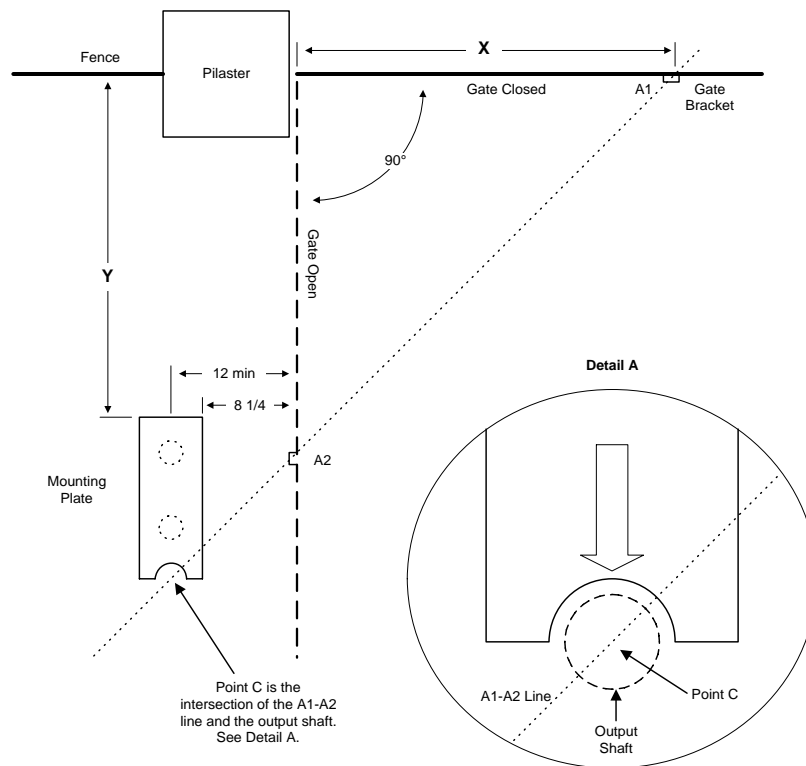

Figure 2
2. Using Table 1 and Figure 2 determine where **POINT C** on the mounting plate / pipe assembly needs to be located. The location of this assembly and the **Y** measurement is dependent on the **X** measurement that you choose.